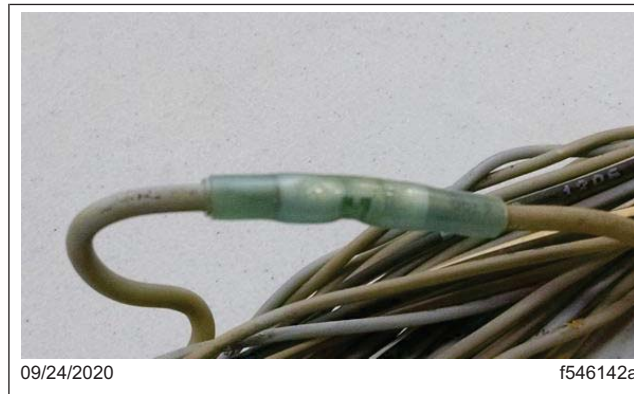

Fig. 21, Wire Repaired with Shrink Tubing
- 10.6 Crimp the Phillips STA-DRY® connector on the repaired wires as required using tool DKIOCHA17003-2 or similar. Use a heat gun to apply the solder and heat shrink the Phillips STA-DRY® connectors. See Fig. 21.